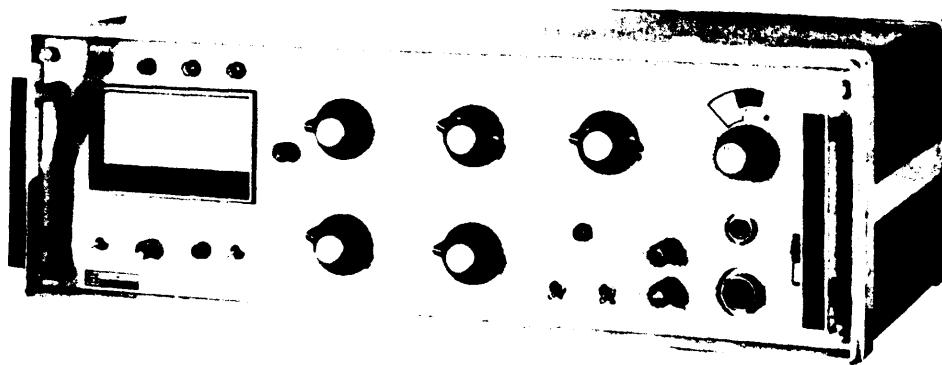

Fig. 1 - Front View - DMS-303A Analyzer
1.01 This manual describes installation, operation, theory, and maintenance of the DMS-303A Analyzer (Fig. 1).